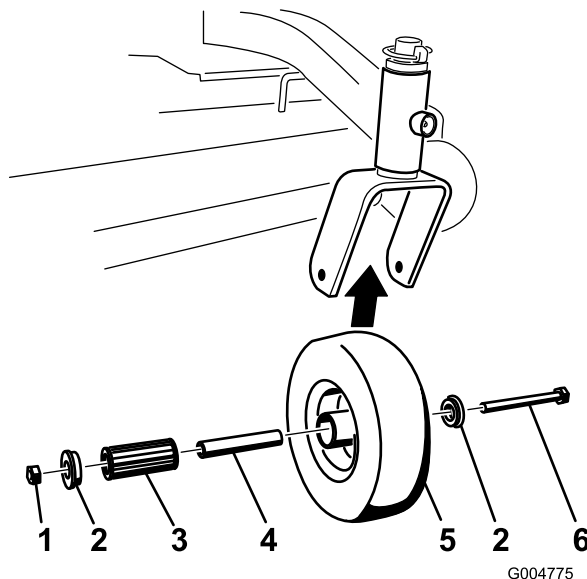

Figure 59
1. Remove the locknut and wheel bolt holding the caster wheel to the caster fork (Figure 59).
2. Remove one bushing, then pull the spanner bushing and roller bearing out of the wheel hub (Figure 59).
3. Remove the other bushing from the wheel hub and clean any grease and dirt from the wheel hub (Figure 59).
4. Inspect the roller bearing, bushings, spanner bushing and inside of the wheel hub for wear. Replace any defective or worn parts (Figure 59).
5. To assemble, place one bushing into the wheel hub. Grease the roller bearing and spanner bushing and slide them into the wheel hub. Place the second bushing into the wheel hub (Figure 59).
bottoms against the inside of the caster forks (Figure 59).